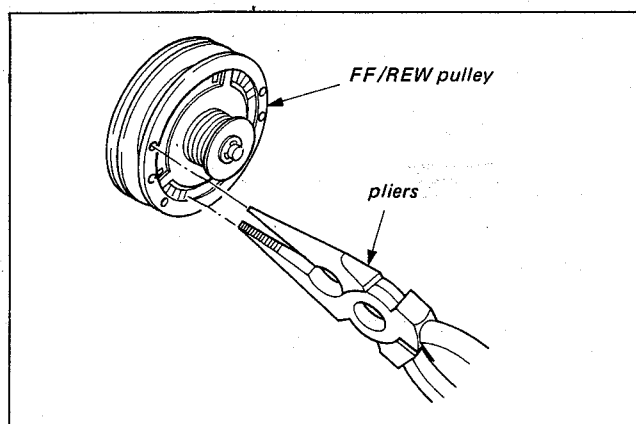

Fig. 5-8. Rewind torque adjustment
- 5. Check to see that the scale reading is 240 g ~ 350 g (x 5 cm). If not, select proper position of the pawl of the FF/REW pulley. See Fig. 5-8.
- Adjust by inserting pliers tips into hole and pawl, as shown in Fig. 5-8.